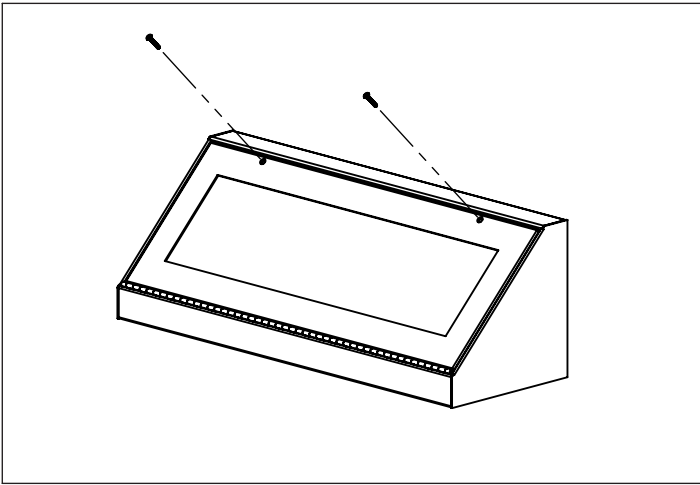

Figure 1
1. With hinge on bottom, remove screws to open fixture (Fig. 1)